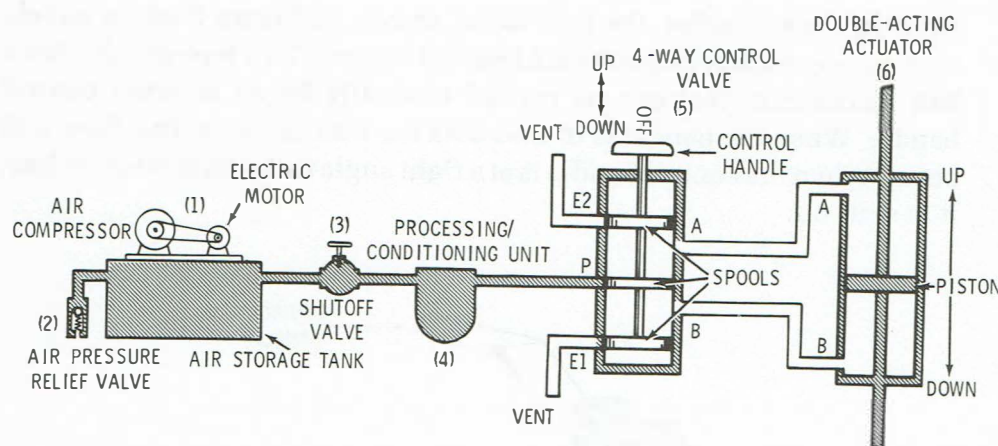

Figure 2-33
The simple pneumatic system, shown in Figure 2-33, is very similar to the basic hydraulic system just discussed. As we proceed with our discussion of the pneumatic system, you will see that many of the components have the same name and perform the same task as they did in the hydraulic system.
The air compressor, motor, and air storage tank, Figure 2-33 (1), is usually a single unit with the compressor and the motor mounted on top of the air storage tank. The electric motor drives the air compressor, which in turn takes air from the atmosphere, compresses it, and routes it to the air storage tank. The storage tank acts as a reservoir for the compressed air, holding the air until it is needed by the system.
The shut-off valve, Figure 2-33 (3), is a simple 2-way directional control valve whose input and output connections are placed in series with the pneumatic transmission line. It is designed to provide full control; simply stated, it either permits air flow or shuts it off. The gate or globe valves discussed in the hydraulic section (Figure 2-24A and B), are two types of valves that are also used to provide flow control in pneumatic systems.
The processing and conditioning unit, shown in Figure 2-33 (4), treats the compressed air before it is used by the system. This unit takes the compressed air from the storage tank and removes any dirt and moisture contained in the air. This is usually accomplished by an air filter with a condensation trap and drain. Once the compressed air has been cleaned and dried, it is treated with a fine mist of oil. The oil provides lubrication for all parts throughout the system. Many conditioning units also incorporate a pressure regulating valve in the unit to regulate air that is supplied to the rest of the system.
As you recall from our discussion of the hydraulic system, a control valve and an actuator work hand-in-hand to position a load. In the case of the simple pneumatic system shown in Figure 2-33, a 4-way control valve (5) is used to position a double-acting actuator (6).